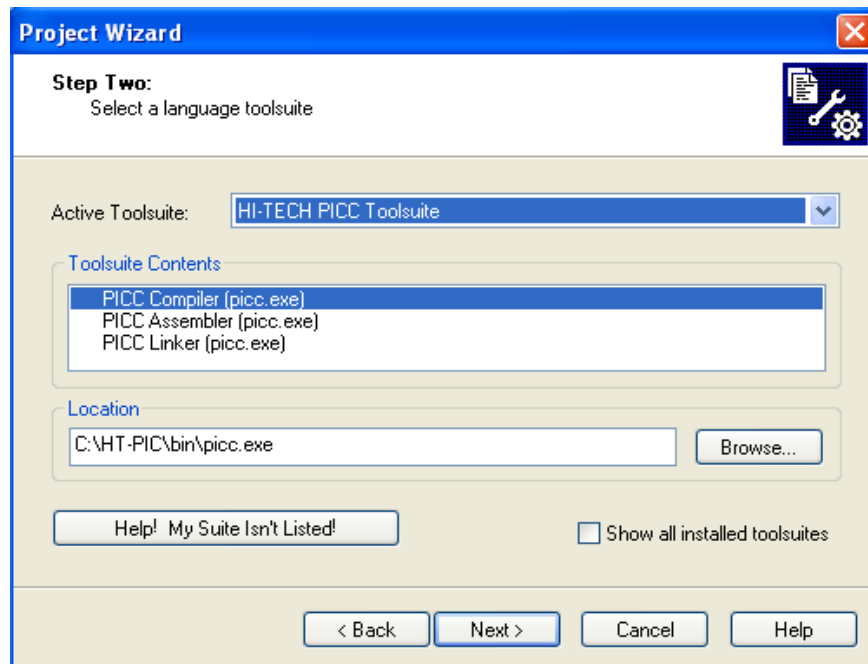

Figure 4 Project Wizard Step 2
Step 5: Click “Next”, you will see a window to select the compilation and linking tools you want to use, choose the options as shown in (Figure 4) , then click next